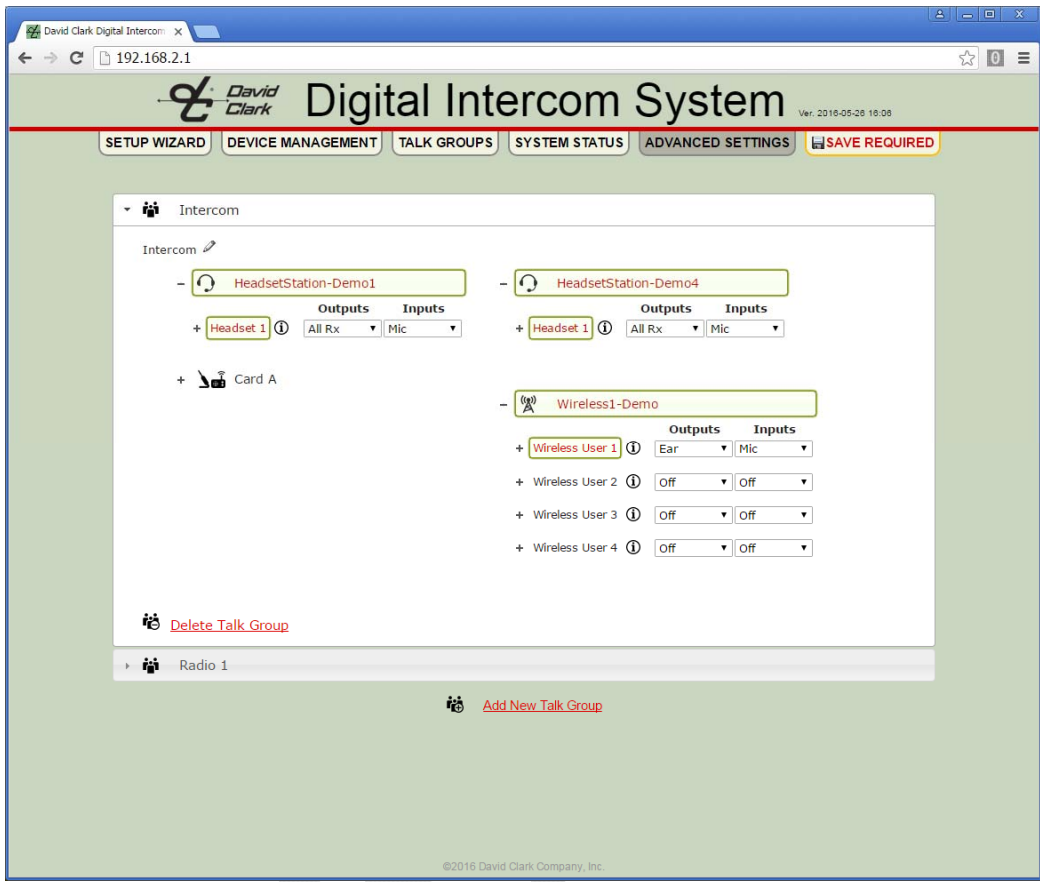

Figure 8.14 Talk Group Example 3 - Intercom
14. See **Figures 8.14 and 8.15**.